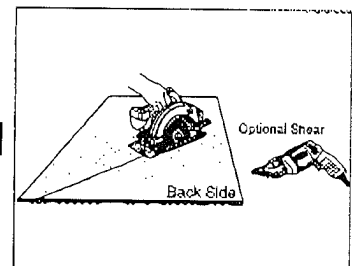

Figure 3
- Swivel-head 18 gauge shears (Figure 3, Page 4)
When cutting with a circular saw, position the panel so that the saw blade enters the front side of panel first to avoid chipping or damage. (Figure 3)